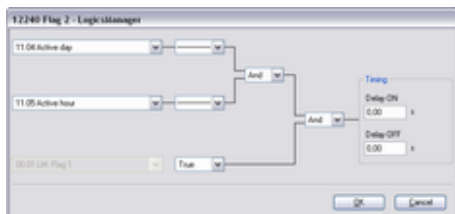

Fig. 241: LogicsManager function "Flag 2"
2. ➤ Configure the LogicsManager function "Flag 2" (parameter 10701 ↵ p. 480/↵ p. 915/↵ p. 919) as shown in (Fig. 241).